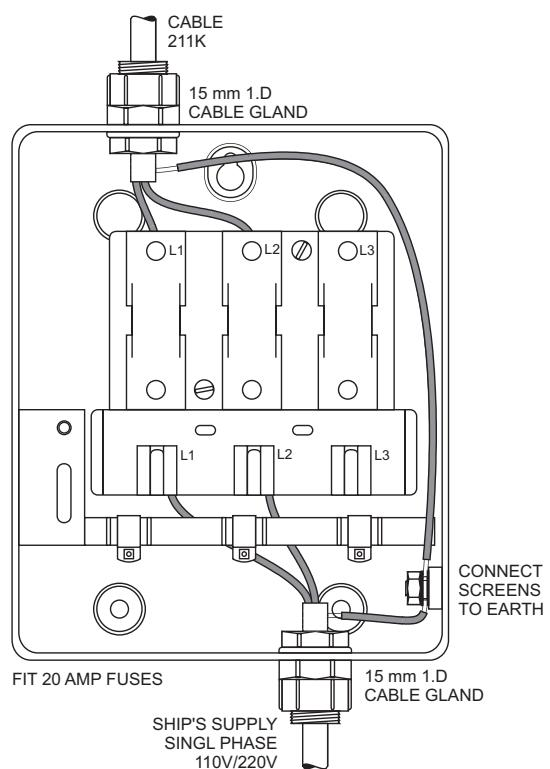

Figure 6f - Mains Isolator: Installation Dimensions
- 36 With reference to Figure 6f, secure the Mains Isolator in the required position (no fittings are supplied).